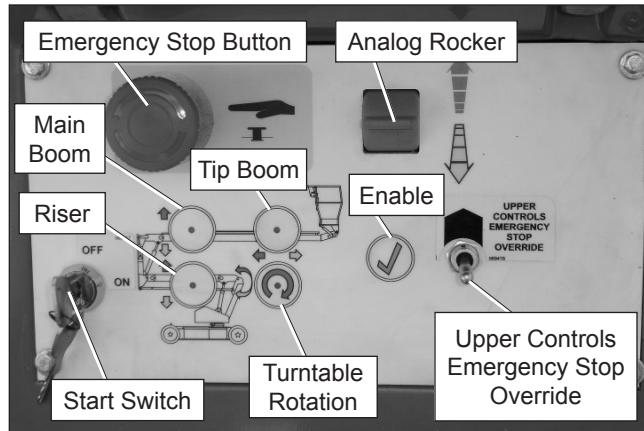

Figure 8.4 – Lower Controls
- At the lower controls pull the emergency stop button outward (refer to Figure 8.4).